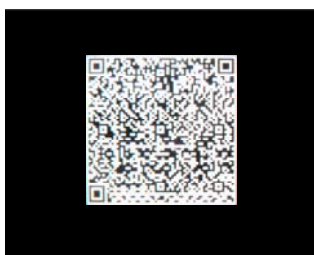

Figure 1-19 QR code interface
Select a record in the list of records. If the record is invalid, continue to press the **On-Off/OK** Button ①/☑ to trigger the QR code, as shown in Figure 1-19.